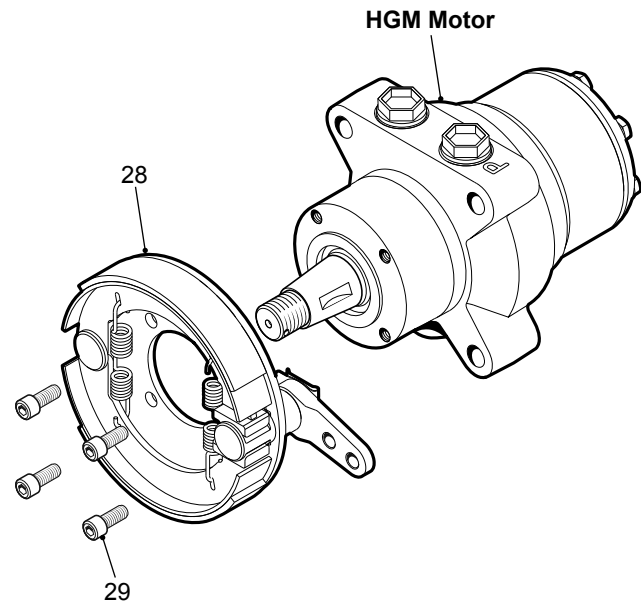

Figure 2, Brake Assembly
3. Remove the drum/hub assembly (27).
4. Remove the four bolts (29) securing the brake assembly (28) to the HGM-E motor.
5. Remove the brake assembly. See figure 2.